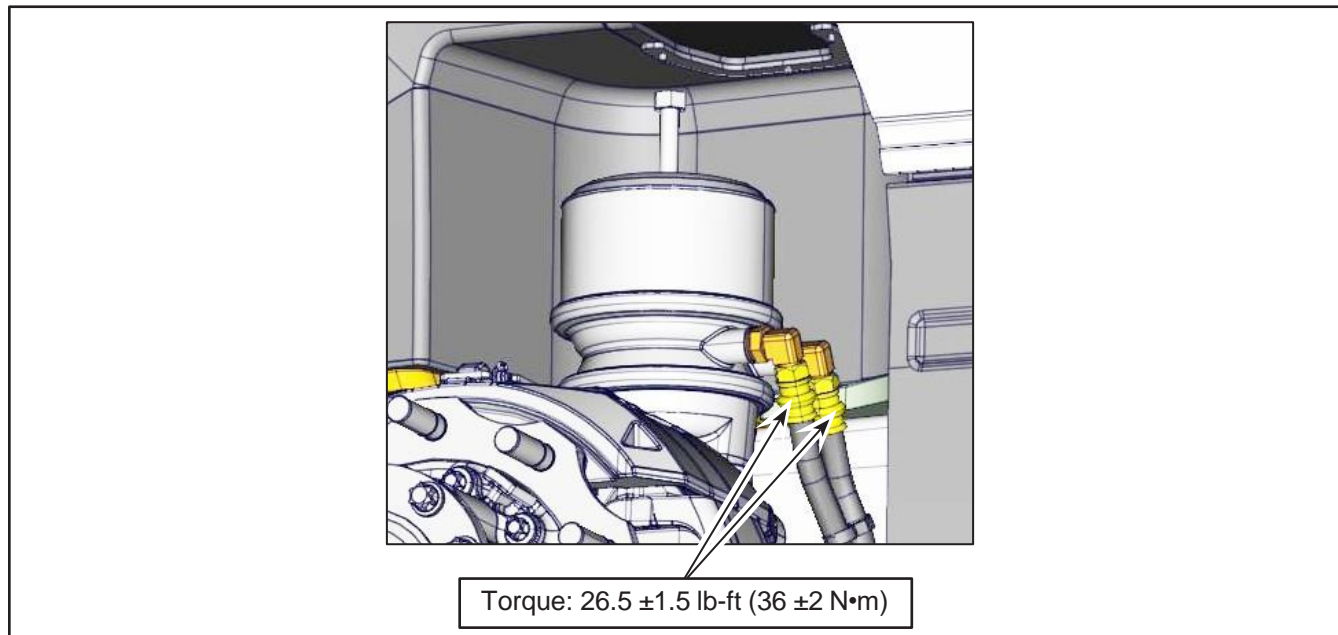

Figure 6 - Pneumatic Hoses Connections
- 2.14. Connect the air hoses to the brake chamber fittings. Check for kinks or misbends and tighten to 26.5 ± 1.5 lb-ft (36 ± 2 N•m) (Figure 6).